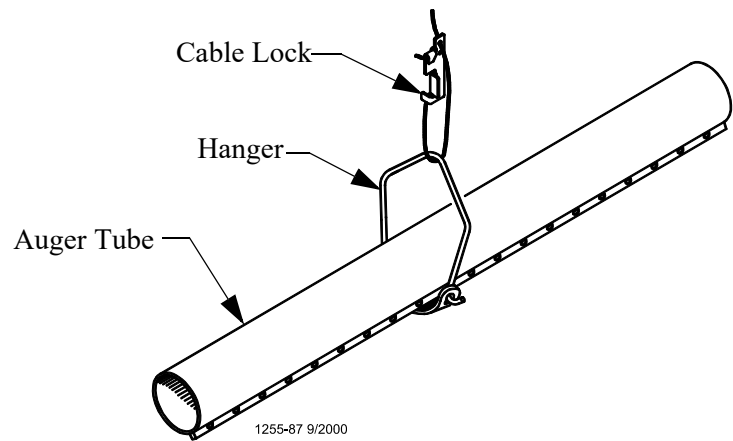

Figure 27. Hanger Installation
5. Install the Hangers on the feed line tube at the 8' [2.4 m] spacings determined by the suspension drop lines. (See **Figure 27.**) shows the proper installation of the Hanger Assembly. Make sure the outlet drop hole is downward when the Hangers are installed, otherwise feed will not be allowed to drop into the feeder pan.